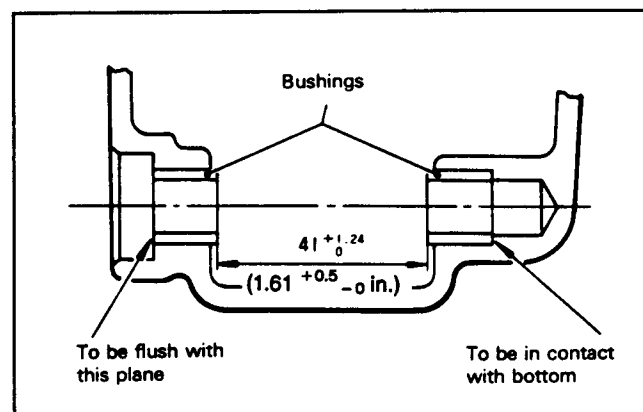

Figure 76
D. If necessary replace the governor bushings (Fig. 76).